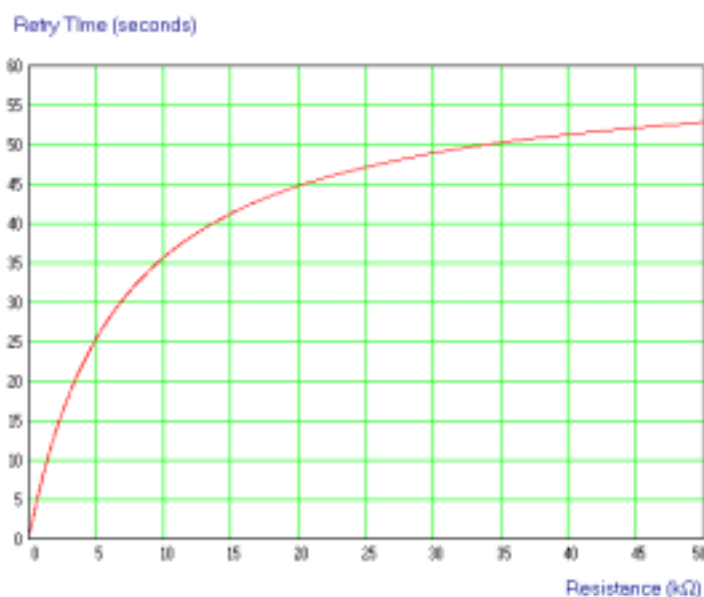

Figure 1-7. Retry Time vs. Resistance
- Adjust the RETRY TIME trim pot, R6, to the required resistance for the desired retry time (see Figure 1-7). For example, set the retry time to 15 seconds, which will be approximately 2200 Ω.